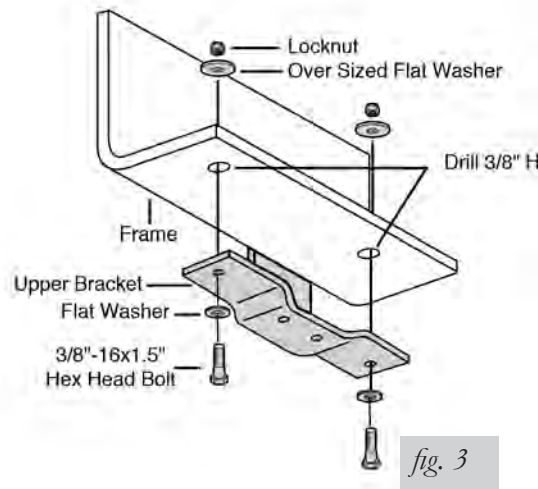

fig. 3
8. Raise the axle or lower the frame until the axle is in the normal ride height (no load) position. Install the upper bracket. You may be able to use the one or both of the existing holes from the jounce bumper bracket. If not, use the holes on each end of the upper bracket as a template to mark and drill two 3/8" diameter holes in the bottom of the frame rail (Figure 3). The holes in the upper bracket are slotted for adjustment. Install the 3/8-16x1.5" HEX HEAD bolt in the REAR hole, flat washers and locknut. Install the 3/8-16x1.5" CARRIAGE bolt in the FRONT hole, flat washer and locknut. LEAVE LOOSE AT THIS TIME.